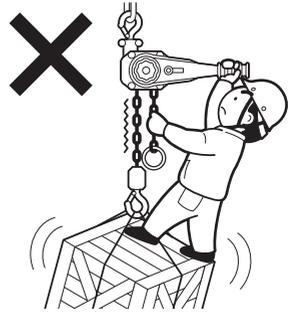
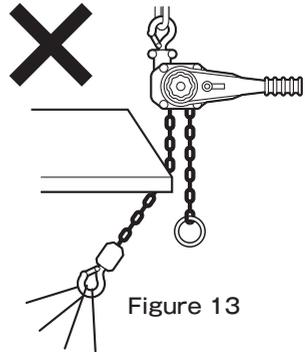
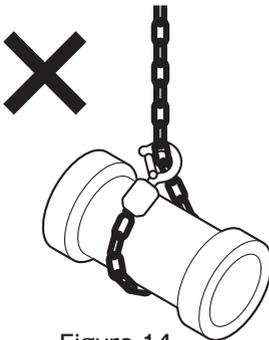

Figure 12
Figure 13
Figure 14
- (24) Do not allow anyone to ride on suspended loads. Never use the lever hoist for human transport purposes. (Figure 12)
- (25) Never reverse a suspended load without sufficient expertise in doing so.
- (26) Do not suspend excessive loads.
- (27) When maintaining the load in a suspended condition for a short period of time, be sure to leave the switch pawls in the lifting position.
- (28) Never use the hoist or the hook to work as a fulcrum.
- (29) Do not use damaged or deformed top/bottom hooks.
- (30) Never use this equipment if the load chain is deformed or damaged.
- (31) Do not operate the equipment with the load chain lodged against a steel plate or other corners. (Figure 13)
- (32) Do not operate the load chain by any means other than human power (do not use any tools or objects on the controls).
- (33) Do not apply abrupt force to the load chain during idle operation.
- (34) Suspend slings properly onto the hook.
- (35) During lifting, temporarily pause winding once either the load chain or sling comes under tension.
- (36) Keep the lever hoist unit and load chain clean and free of sand and other debris.
- (37) Make sure the lifting height is sufficient for the intended work.
- (38) Make sure the load chain is sufficiently lubricated.
- (39) Do not modify this equipment in any way.
- (40) Do not use with the load chain wrapped around the load. (Figure 14)